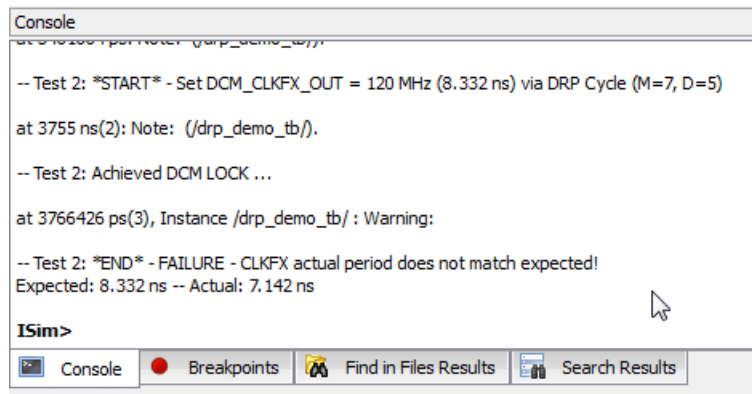

Figure 4-15: Console Panel
4. There are assertions from the test bench during the time of simulation. Review the Console panel for messages from the test bench (Refer to Figure 4-15).